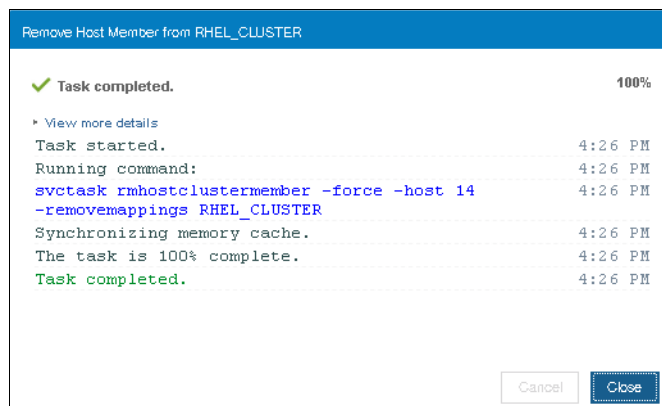

Figure 5-107 Host member removal task from host cluster completed
7. Click **Remove Hosts**. A window indicating task completed will be shown as in Figure 5-107.